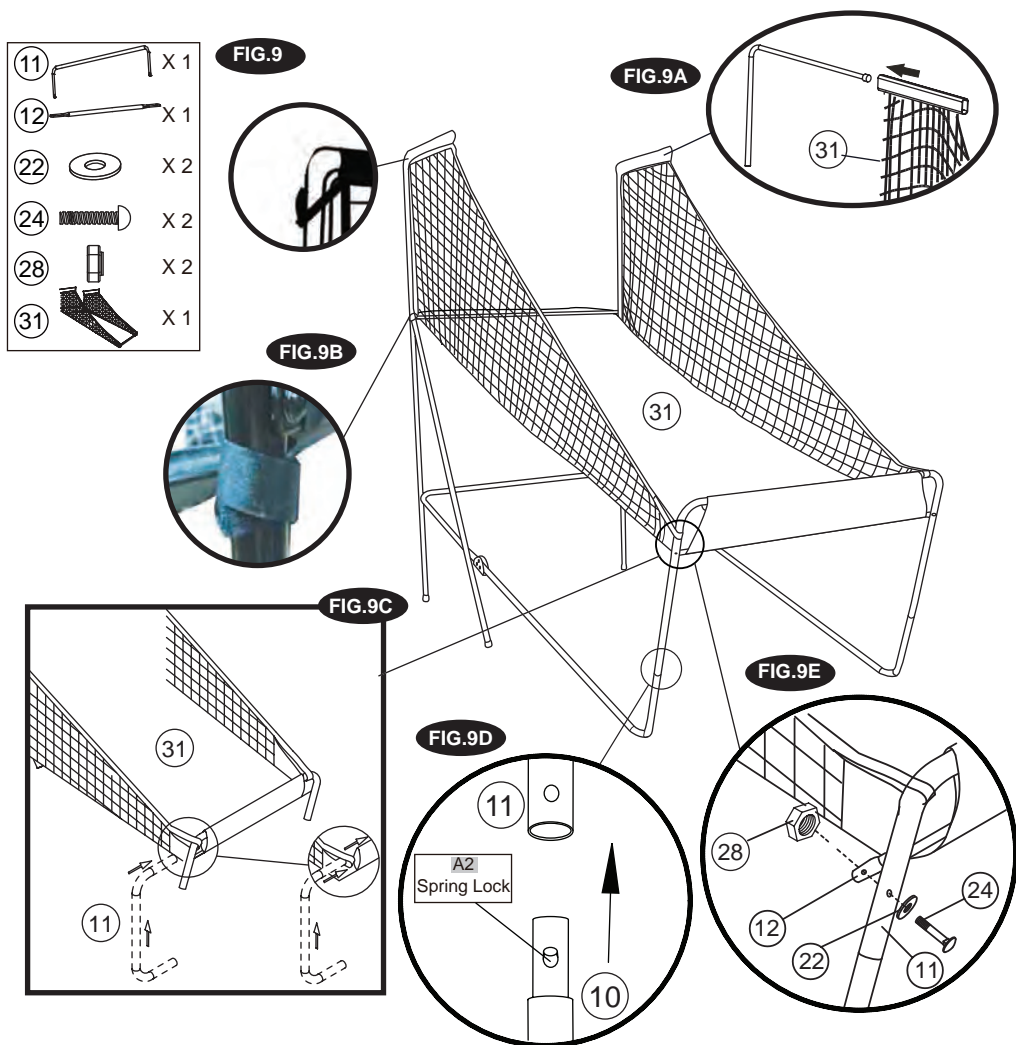

**FIG. 8**
12. Attach the Rim (#17) to the Backboard (#21) using four Bolts (#23) and four Washers (#22), attach the Rim Support Plate (#18) to the back of backboard using four Nuts (#28) as shown in FIG. 8.
13. Attach the Switch Sensor (#15) to the Backboard (#21) using four Bolts (#23), eight Washers (#22) and four Nuts (#28) as shown in FIG. 8.